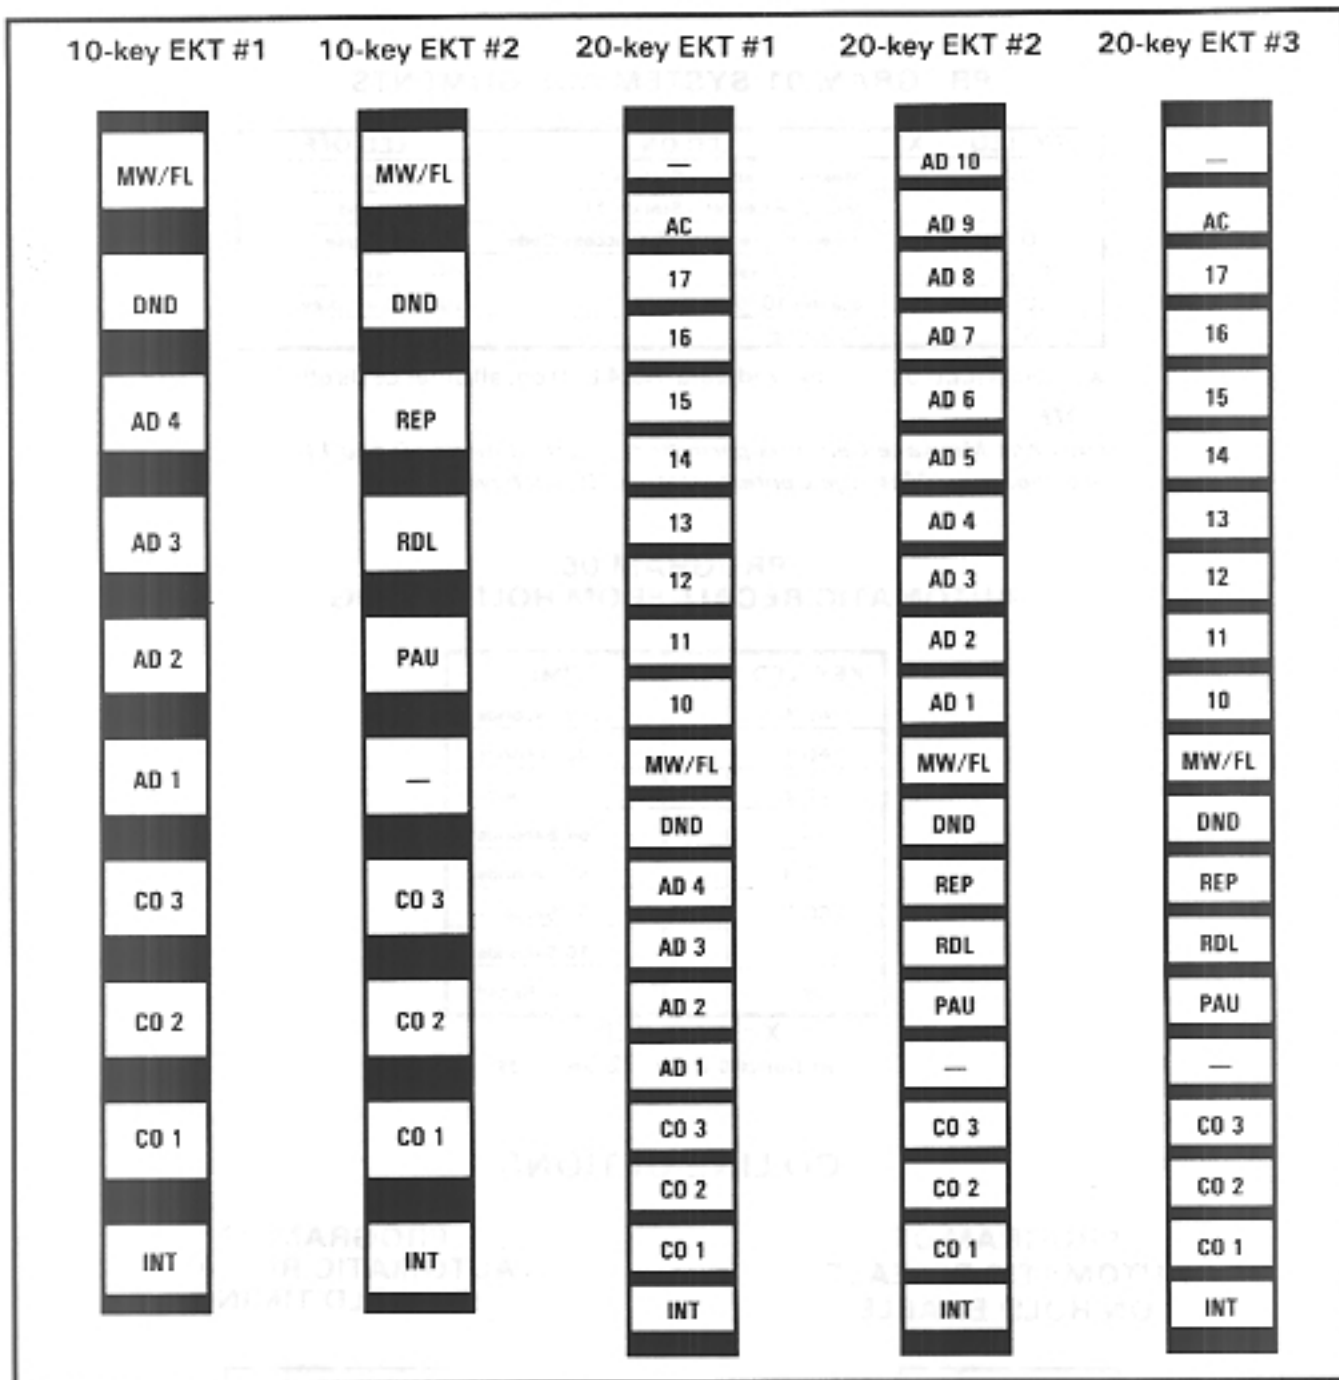

FIGURE 1—EKT KEY ASSIGNMENTS
Informs the system of the type and style telephone being used at each station (see Figure 1 for representative key designation strips). Selection must be made for each station.
*Instructions #1 and #3 cover all available EKTs, #2 is a 20-key exclusive (see Figure 1).*
(See Figure 1)